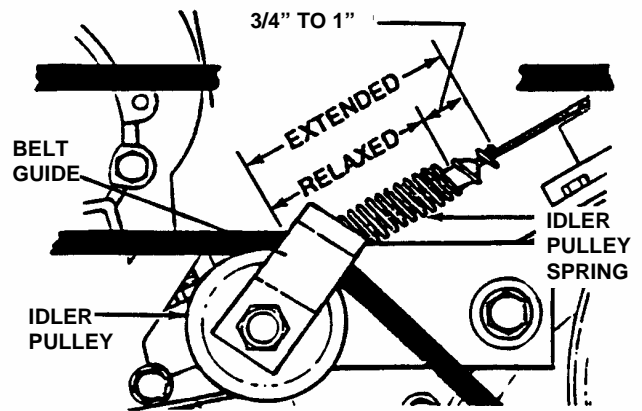
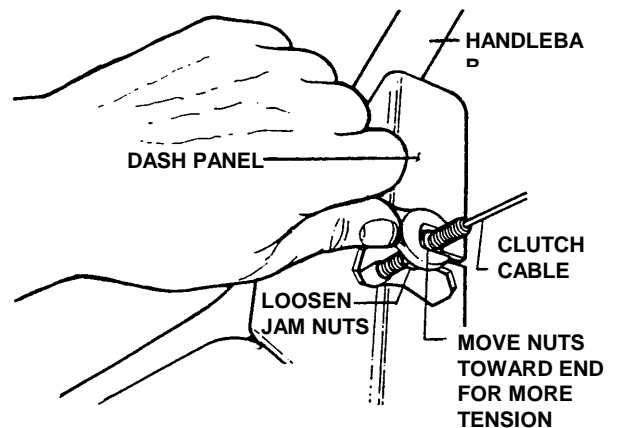

FIGURE 3
FIGURE 4
STEP 4: Belt Tension adjustment will have to be checked after set-up is complete. From the right side under the fuel tank, measure the length of the idler pulley spring at the end of the control cable in a relaxed position. Then move wheel and tine control bail up to the handle bar and measure the extended length of the spring. When properly adjusted, the spring will extend 3/4" to 1". See Figure 3. To adjust, loosen and reposition the two jam nuts on the threaded end of cable located on the dash panel. Move jam nuts toward the end of threaded end of cable for more tension. Move jam nuts in a direction away from the end of threaded end of cable for less tension. See Figure 4. After adjustment, retighten both jam nuts against dash panel. On some older models the left wheel and belt guard may need to be removed for spring access.